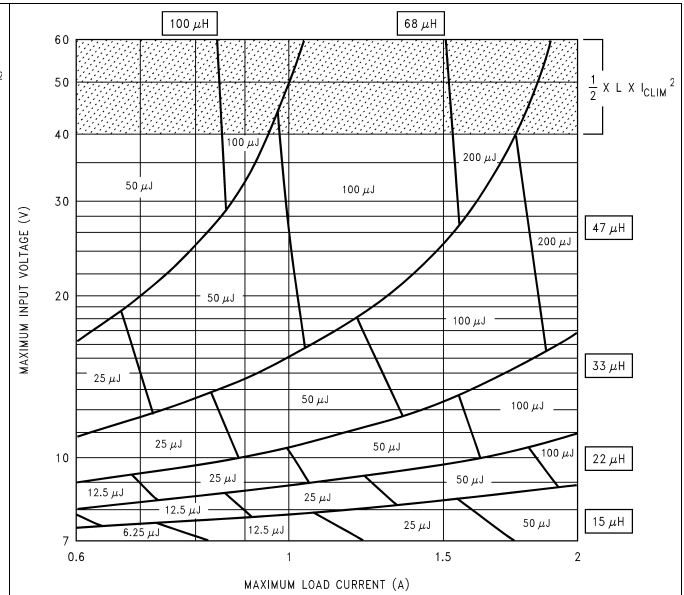

Figure 34. LM2593HV 5-V
1. A first pass inductor selection is based upon inductance and rated maximum load current. Choose an inductor with the inductance value indicated by the nomograph (see Figure 34) and a current rating equal to the maximum load current. Therefore, quick-select a 68- μH , 1-A inductor (designed for 150-kHz operation) for this application.
- Confirm that it is rated to handle 50 μJ (see Figure 34) by either estimating the peak current or by a detailed calculation as shown in *AN-1197 Selecting Inductors for Buck Converters (SNVA038)*, and also that the losses are acceptable.
- A first pass inductor selection is based upon inductance and the switch current limit. Choose an inductor with the inductance value indicated by the nomograph (see Figure 34) and a current rating equal to I_{CLIM} . Therefore, quick-select a 68- μH , 4-A inductor (designed for 150-kHz operation) for this application.